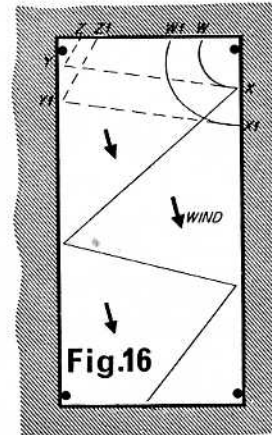

Fig. 16
Now for (2) Guying. Guying is the ability to make the boat intentionally change tack when away from the side of the lake. Where this takes place not far from the side from which it has left it is called a "short guy" and when a long way away, frequently nearly the other side of the lake, it is a "long guy". How these are affected as well as those between will be dealt with later when we discuss the types of vane gears in more detail, but here the purpose of guying will be explained. Guying has two uses, the first is in racing where on the majority of waters it must be considered a vital necessity. Fig. 16 shows a fairly ideally proportioned lake for racing and the course taken by a boat with the wind in the direction shown. From this it will be seen that if a plain tack was made from position "X", the course followed would be the dotted one to "Y" and then after changing tack once again to "Z", whereas by quickly setting a short guy at "X" the course would be that of the solid line to "W" over the finishing line after a relatively few yards. If the course had brought the boat to "X1" then a longer guy to "W1" would still be better than to "Y1" and "Z1". The other use of the guy is when sailing alone on a largish water and the wind is fairly straight down the length of it,